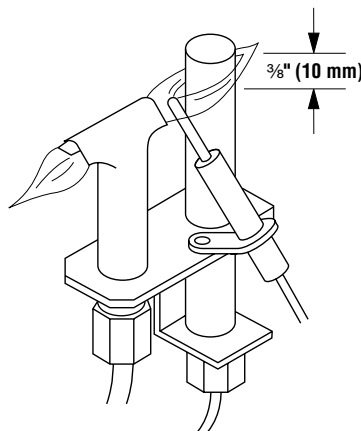

Figure 13
The top $\frac{3}{8}$ " (9 mm) at the pilot generator (thermopile) should be engulfed in the pilot flame (*Figure 13*).
2. Adjust the pilot screw to provide properly sized pilot flame (*Figure 13*). Turn counter clockwise to enlarge pilot flame and clockwise to reduce the pilot flame. DO NOT attempt to adjust pilot flame more than one half turn.